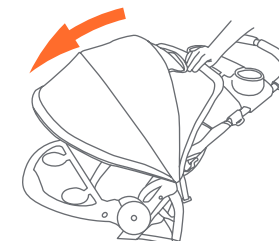

Fig. 8
- To open the canopy: push forward on the front edge of the canopy while holding the rear of canopy in place (Fig. 8).